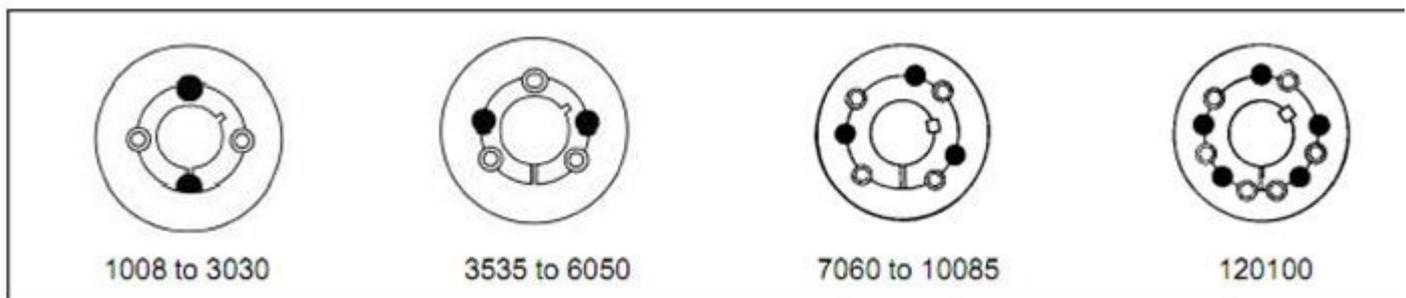

Figure 3
6. Using a hammer and block, or sleeve, against the large end of the Taper Lock bush will help to avoid damage to the bushing. Lightly tap against the bushing to ensure it is seated squarely. The screws are then tightened further. A torque wrench is used to tighten the screws alternatively and evenly until they are all to the recommended torque setting. This information is available from the installation sheet that accompanies any new Taper Lock bush. See example chart below (figure 3), or ask for this information.